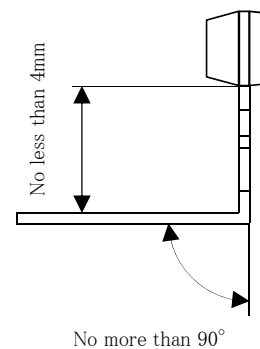

Fig.2 Lead Bending to Be Perpendicular to the Transistor Name Plate Face.
- (3) To make a lead bending perpendicularly to the front side of the body as shown in Fig.2, bend at a point more than 4mm down from the body.